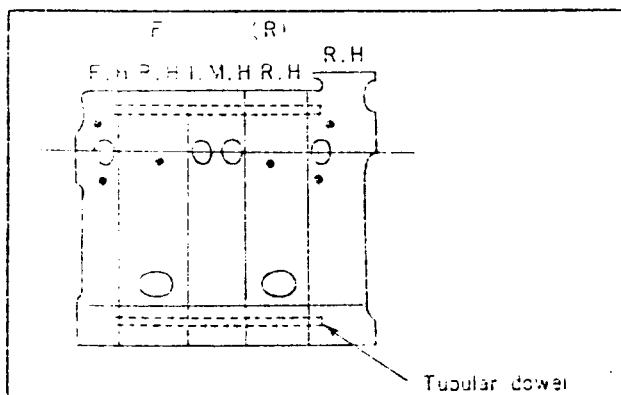

Fig. 2-7
(1) Clean the intake port of each housing with paint thinner or ketone.
(2) Assemble three side housings and two rotor housings, and tighten with three tension bolts. (See Fig. 2-7).